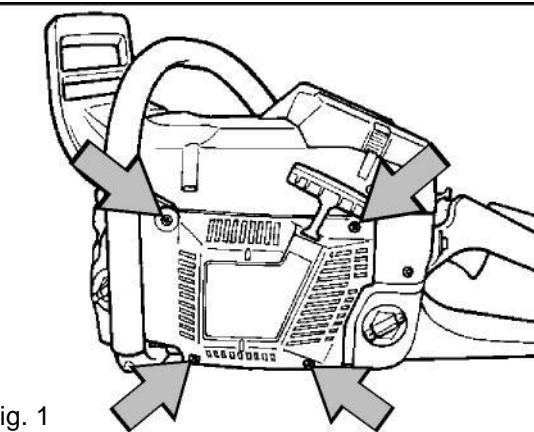

Fig. 1
1. Undo the four bolts that fasten the starter assembly to the crankcase and remove it. See fig. 1.
Tighten the bolts to 4 Nm. See fig. 1.